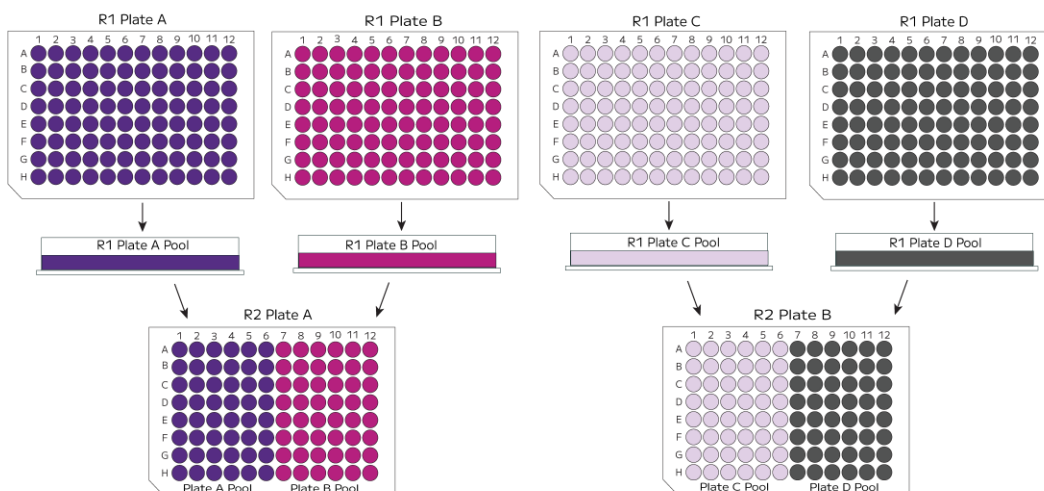

Figure 6: After straining Round 1 Pools into four basins, each Pool is loaded column-wise into six columns each of the Round 2 Plates (A) and B.
6. While secured in a PCR tube rack on a flat surface, remove the plate seal from the Round 2 Plate (A), and apply the provide adhesive labels to assist with loading. We suggest not removing the seal from Round 2 Plate B yet to avoid confusion.
7. With Round 2 Plates on ice, transfer the Ligation Cell Mix to each well in the Round 2 Plate (A) as follows. See figure 6 for an overview.
- ii Transfer **40 μ L** of the mix to column 1 of the Round 2 Plate (A) and mix by pipetting 2x.